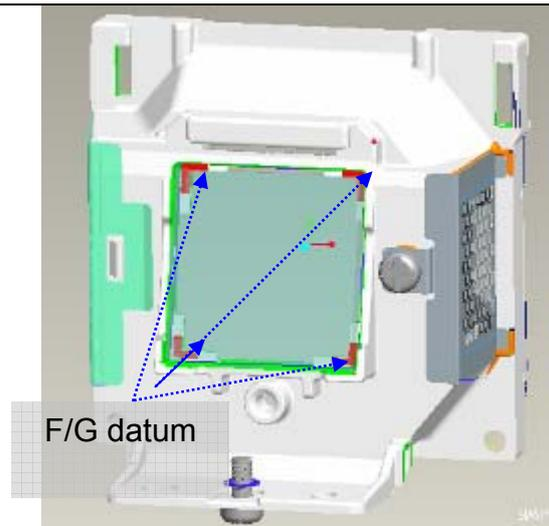

Fig. 1-7
- ii. F/G must be placed on datum surfaces well. (Figure 1-7)